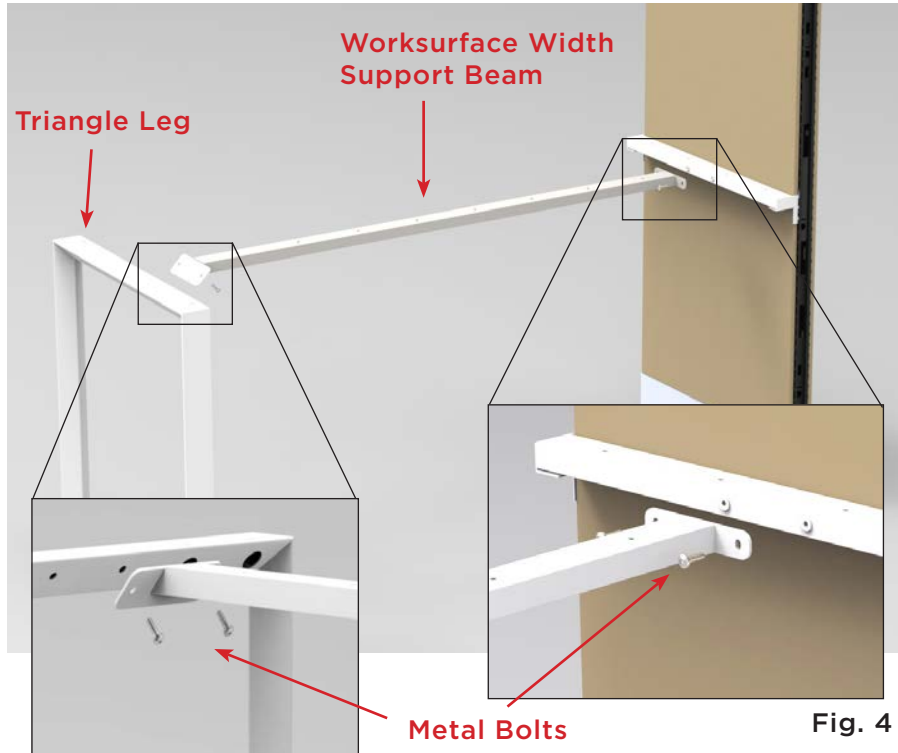

Fig. 3
3. The fully assembled support beam should look like this. See figure 3.